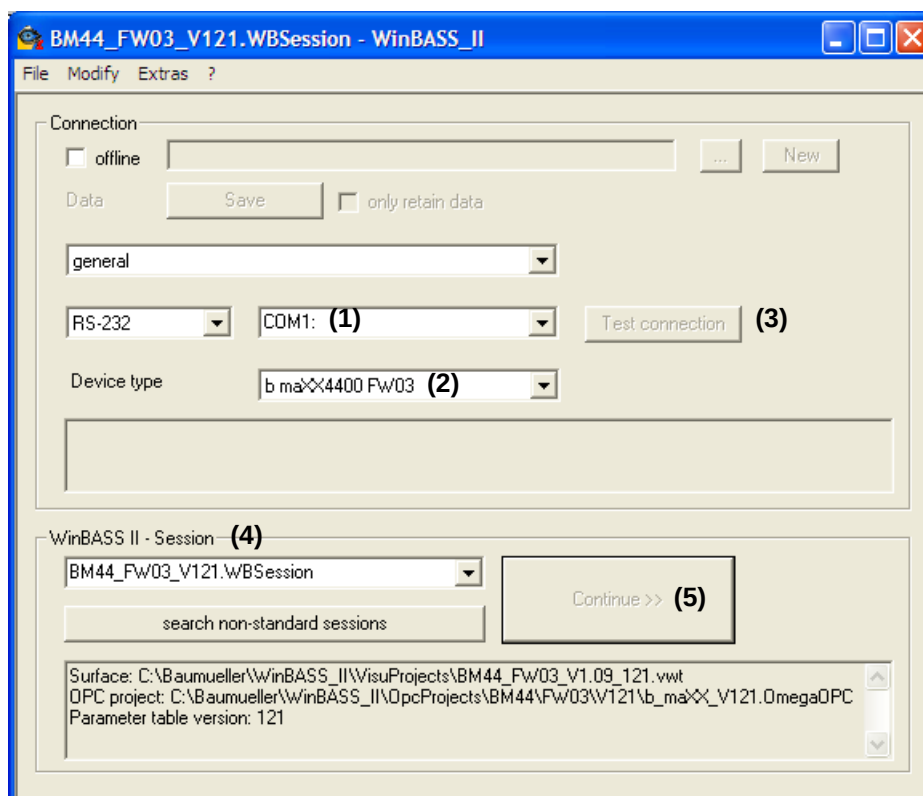

Figure 17: WinBASS II: Starting window
- 11** After starting the WinBASS II program window appears (see ► Figure 17 ◀ on page 33). Usually you can proceed as follows.
- 12** Select the serial interface under (1), where the PC is connected with the b maXX device.
- 13** Then select the type of device under (2).